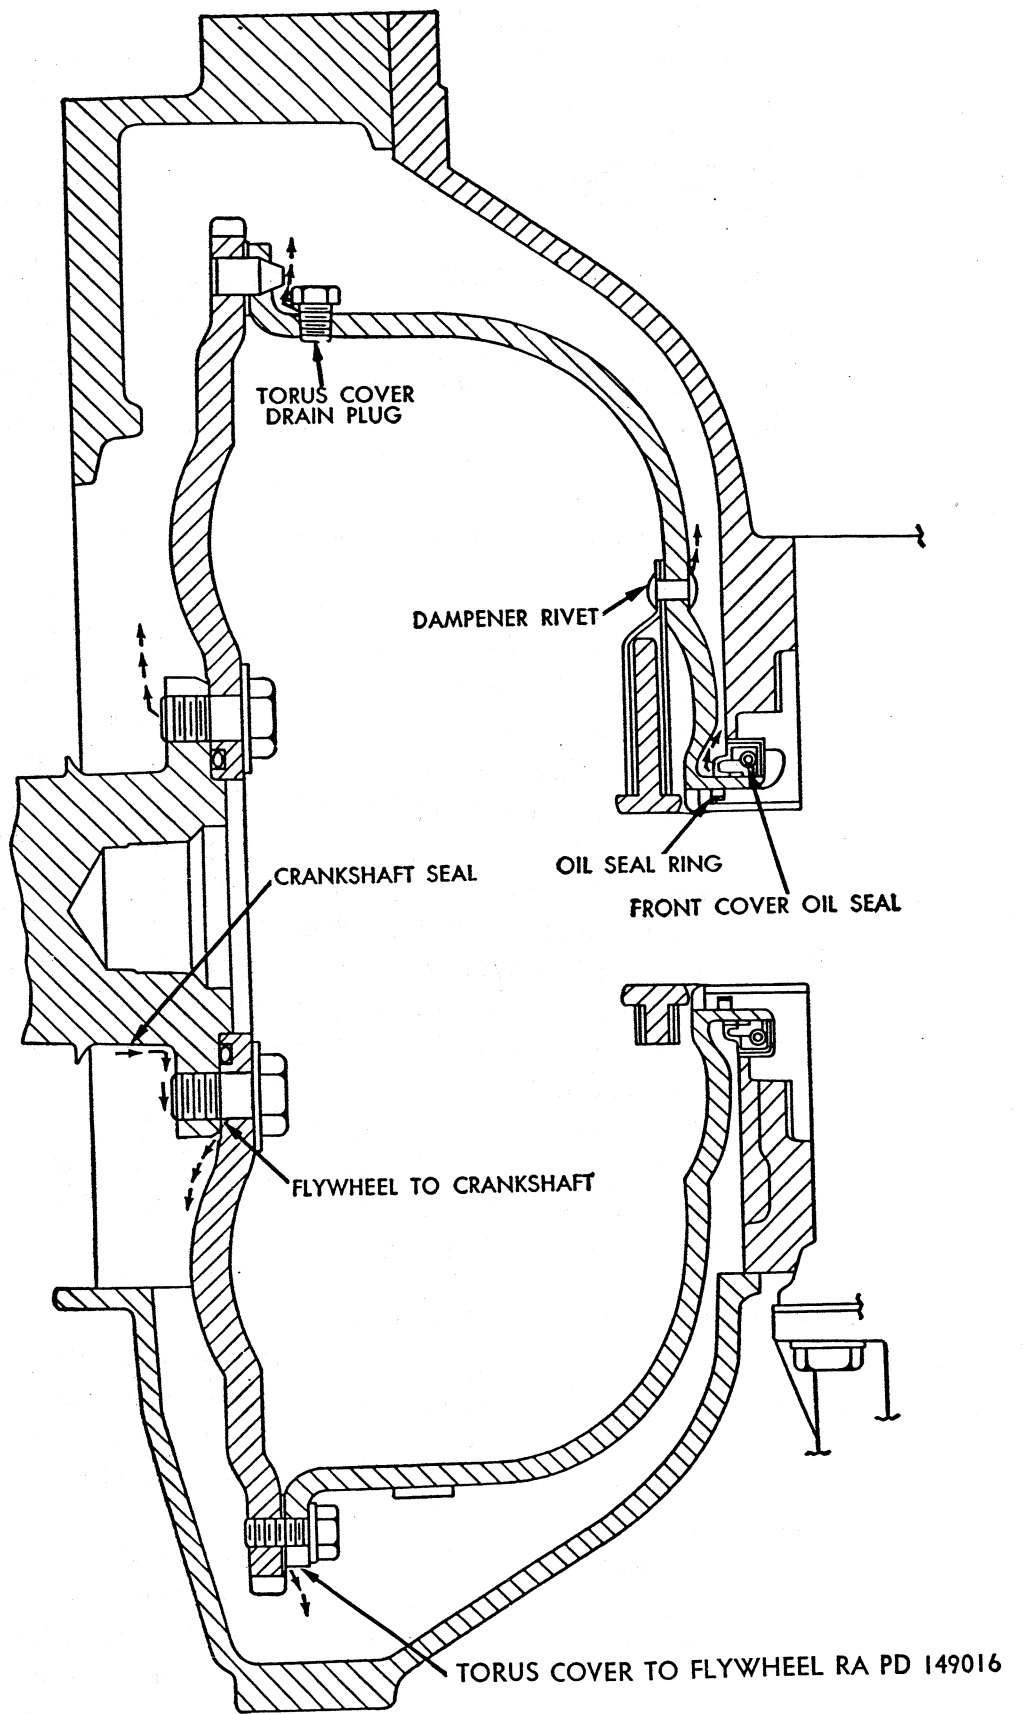

Figure 188. Location of possible oil leaks.
*b. At Flywheel and Torus Cover* (fig. 188).
- (1) Remove eight cap screws and lockwashers attaching flywheel housing cover to flywheel housing; then remove cover.
- (2) Using dry-cleaning solvent or volatile mineral spirits, wash flywheel and torus cover thoroughly; then dry completely.
- (3) Spread a clean piece of white or brown paper under flywheel and torus cover.